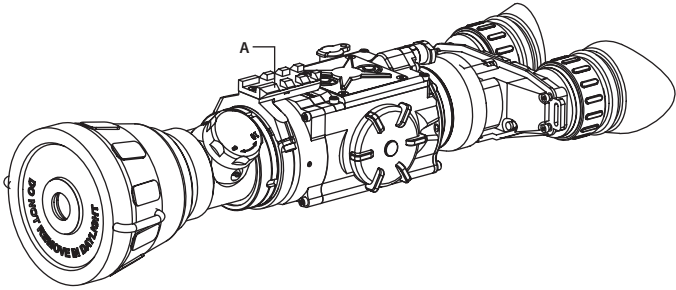

FIGURE 3-2. THE JANUS FULLY ASSEMBLED WITH THE PLATFORM RING
Figure 3-2 shows the Janus with the Platform Ring adapter (A) installed.
1. Using a 1.5 hex key, unscrew the both clamp screws (C).
2. Place the clamps (B, D) onto the mounting tube (as in Figure 3-2). Screw the clamps together without tightening the screws (C).
3. Adjust position of the Platform Ring until its rail (A) is level. Apply a small amount of thread lock to the threads and tighten the screws (C).